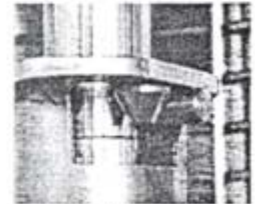

Fig. 4
3. Move the agitator so that the notch on the agitator fits over the pin on the agitator shaft as shown in fig. 4. NOTE: It is easier to install the agitator prior to adding the ingredients into the bowl.